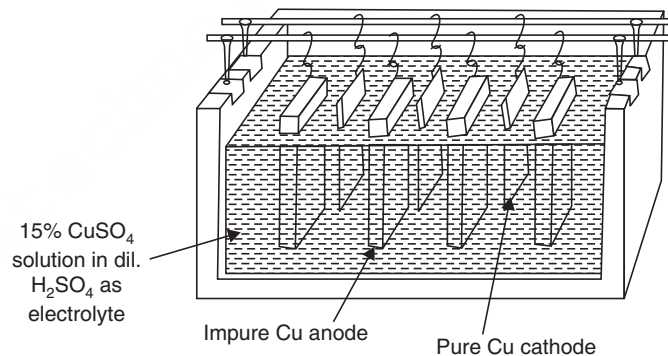

Fig. 14.13 Electrolytic refining of copper.
2. **Electro-refining.** This method is widely used. Usually an electrolytic cell is set up using thin sheets of pure metal as the cathode and comparatively thick impure metal slag as anode. The electrolyte used is an aqueous solution of a suitable salt. During electrolysis, pure metal from the electrolyte gets deposited on the cathode and the equivalent amount of metal from the anode passes into the solution. The impurities either remain in solution or are deposited down the anode. This deposit is known as **anode mud**. Sometimes some valuable metals are recovered from anode mud. A typical example of electrolytic refining is of copper (Fig. 14.13).
Powder metallurgy (Fig. 14.13) is a technique or operation or process to produce metallic or alloy articles. In this technique, the metal powders or alloy constituents are compacted in a die with melting or no melting followed by sintering. The simultaneous method of compacting and sintering is called *pressure sintering*.